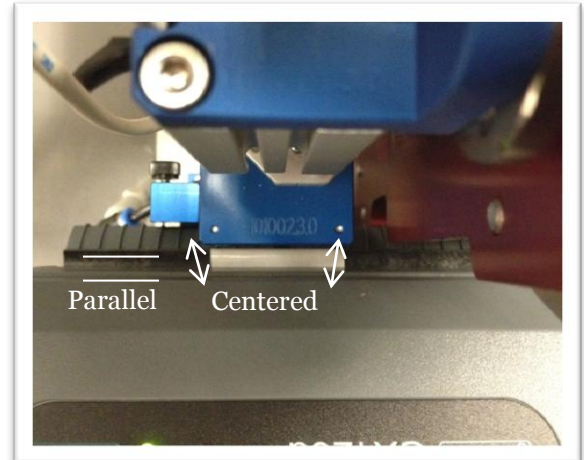

Figure 5.4.20 Label Pad Alignment
- Adjust the position of the arm using three screws located beneath the arm. Adjust it so that the pickup pad is centered on the label stock and parallel with the printer peeling bar (Figure 5.4.20).